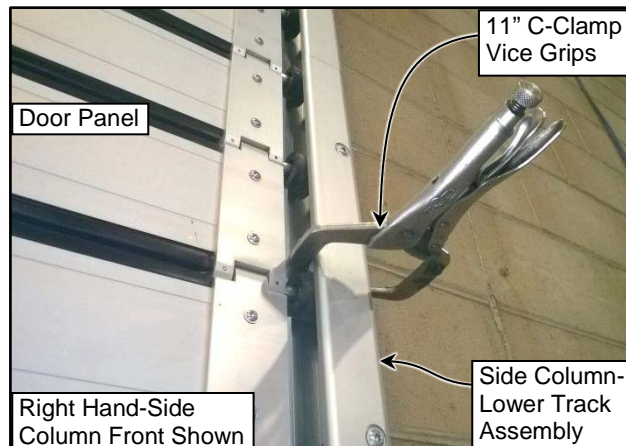

Figure 80
3. The door **MUST** be closed & stay closed when winding or making any adjustments to the torsion springs. Vise grip both vertical tracks above one of the rollers on each side as shown. (See Figure 80)